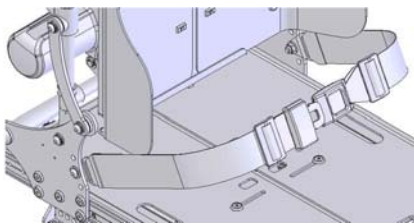

Figure 5-142
5.3.13.1 The pelvic belt is shown as Figure 5-142